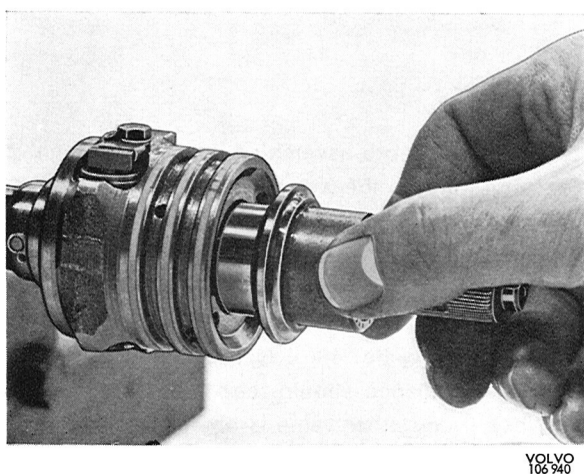

Fig. 6-85. Checking bearing
1. Install the needle bearings (61) in the bearing sleeve (60) and test it on the worm spindle (Fig. 6-85). The sleeve should turn easily without any noticeable play. If there is any noticeable play, test with thicker needles in the needle bearing. These are available in four sizes with a difference between each of  $2\mu\text{m}$  ( $.002\text{ mm} = .0008''$ ), see "Specifications". Bearing sleeves are available with external diameter  $28.0\text{ mm}$  ( $1.102''$ ) and  $28.015\text{ mm}$  ( $1.103''$ ). Use tool 2481 for installing the sleeve.